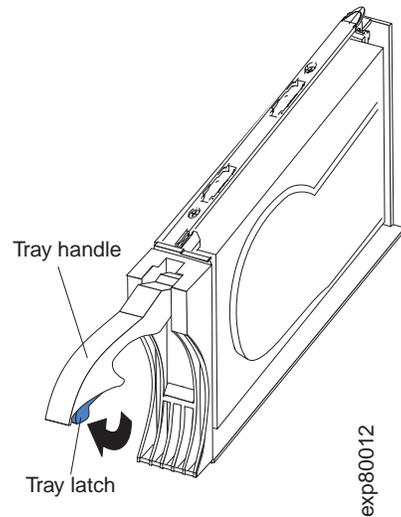

Figure 44. EV-DDM CRU handle
- b. Pull the handle on the tray out so that it is in the open position, as shown in Figure 44 on page 80.
- a. Release the latch on the EV-DDM CRU by pressing on the inside of the bottom of the tray handle, as shown by the arrow in Figure 44 on page 80.